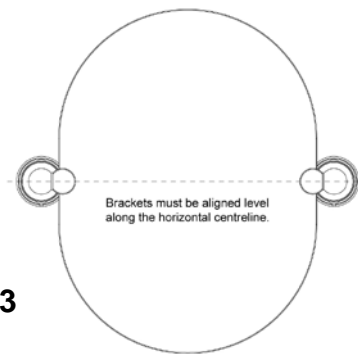

Fig.3
8. Loosen the plastic grub screws on the reverse of each backplate and carefully slide the mirror glass into the mirror securing slot. Please ensure that the backplates are positioned on the horizontal centreline of the mirror glass as shown in Fig.3.